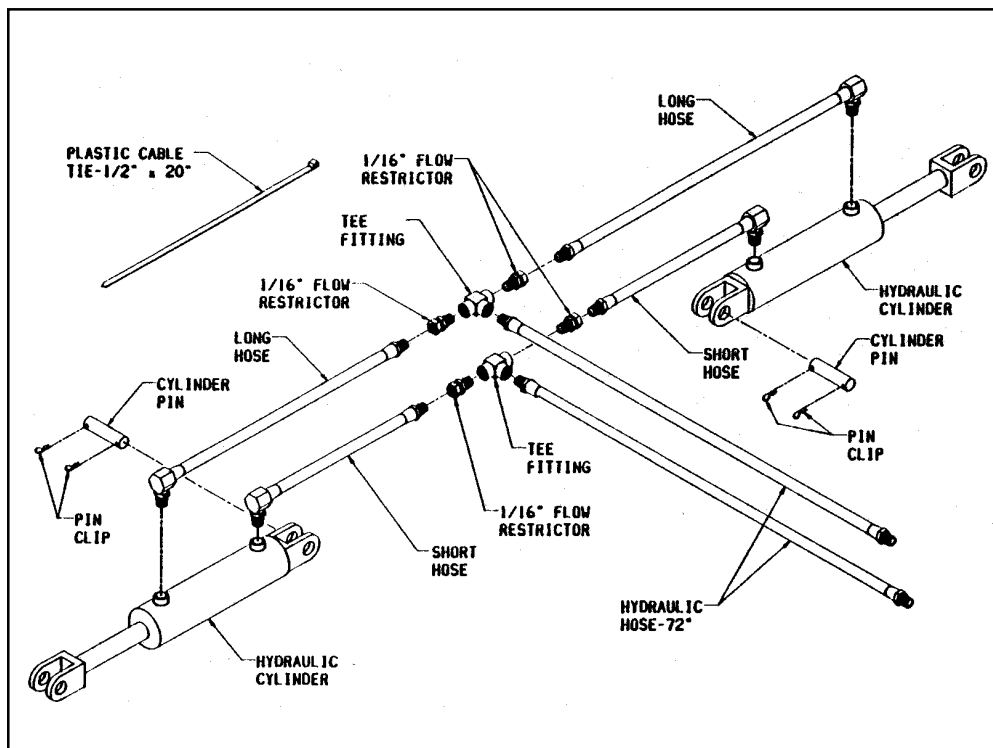

FIGURE 12
7. Install hydraulic lines as shown in Figure 12.